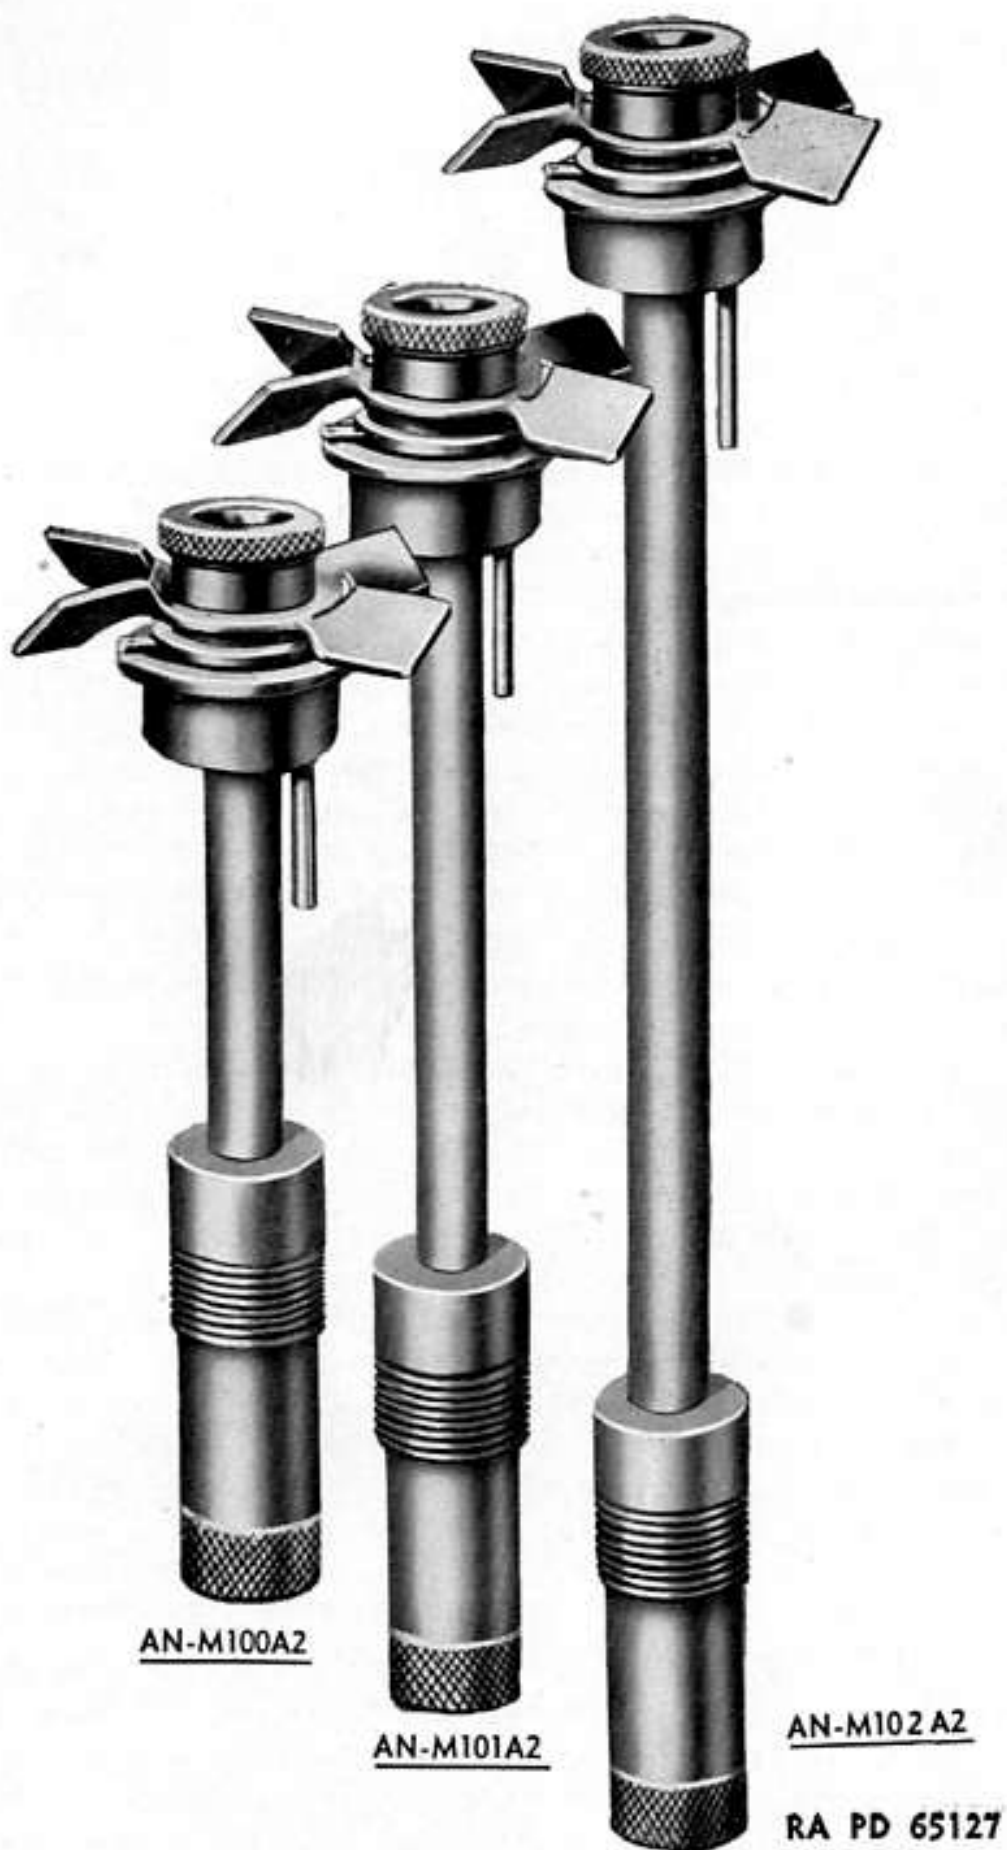

Figure 77. FUZE, bomb, AN-M100A2, AN-M101A2, and AN-M102A2.
b. Description. Except for the length of the stem and the corresponding differences in over-all length, weight, and bombs authorized, this fuze is identical with the FUZE, bomb, AN-M100A2 (tail) described in paragraph 53. (See fig. 77.) With the exceptions noted, all statements made above concerning FUZE, bomb, AN-M100A2 (tail) apply equally to the AN-M101A2, and all statements concerning the AN-M100A1 apply equally to the AN-M101A1.
b. Description. Except for the length of the stem and the corresponding differences in over-all length, weight, and bombs authorized, this fuze is identical with FUZE, bomb, AN-M100A2 (tail) described in paragraph 53. (See fig. 77.) With the exceptions noted, all statements made above concerning FUZE, bomb, AN-M100A2 (tail) apply equally to the AN-M102A2, and all statements concerning the AN-M100A1 apply equally to the AN-M102A1. The same differences as noted above apply between FUZE, bomb, M102A1 and M100A1 and between M102 and M100.